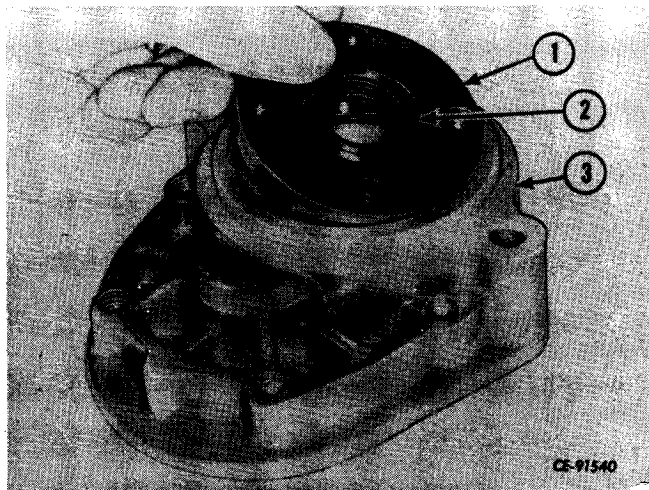

Figure 3-54
Remove the cap screws that secure the seal retainer (1, Fig. 3-54) to the body (3). Press the old seal (2) from the retainer (1). Using the proper seal installation tool (Fig. 3-62), press a new seal in the retainer being careful not to damage the seal.
Install the retainer assembly (1, Fig. 3-54) in the body (3) and secure with the cap screws.